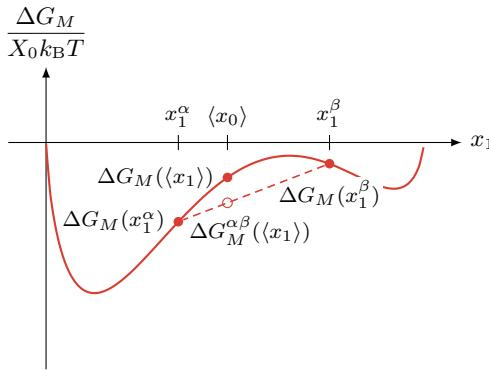

Figure 2.26: Tie lines predict the favorability of demixing.
- Therefore, if the tie line lies above the curve, demixing will raise the energy of the system and will not occur. If the tie line lies below the curve, demixing will lower the energy of the system and will occur. As such, with the choices of  $\langle x_1 \rangle$ ,  $x_1^\alpha$ , and  $x_1^\beta$  in Figure 2.26, mixing will occur.